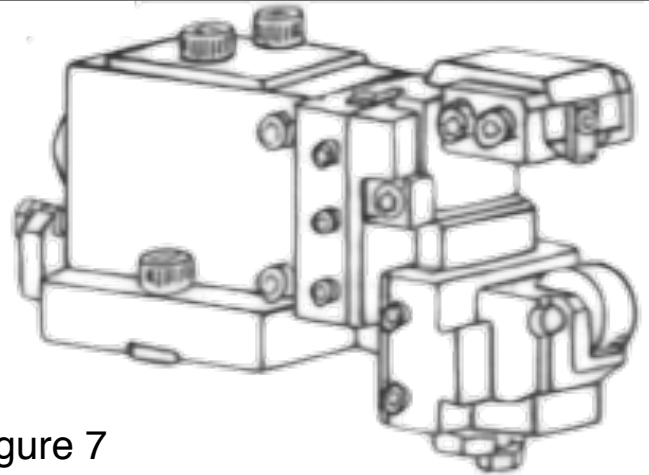

Figure 7
2. **Chatter** causes when using a Langolf Holder (Figure 7):